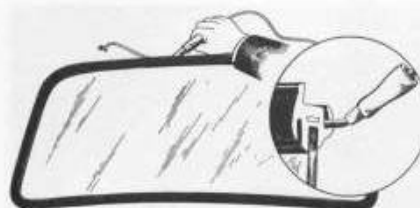

Fig. 40. Placing cord in rubber strip.
2. Fit a cord (preferably terylene, 5 mm =  $3/16$ " ) in the groove of the rubber strip for the sheet metal edge, beginning at the top centre as shown in Fig. 40.